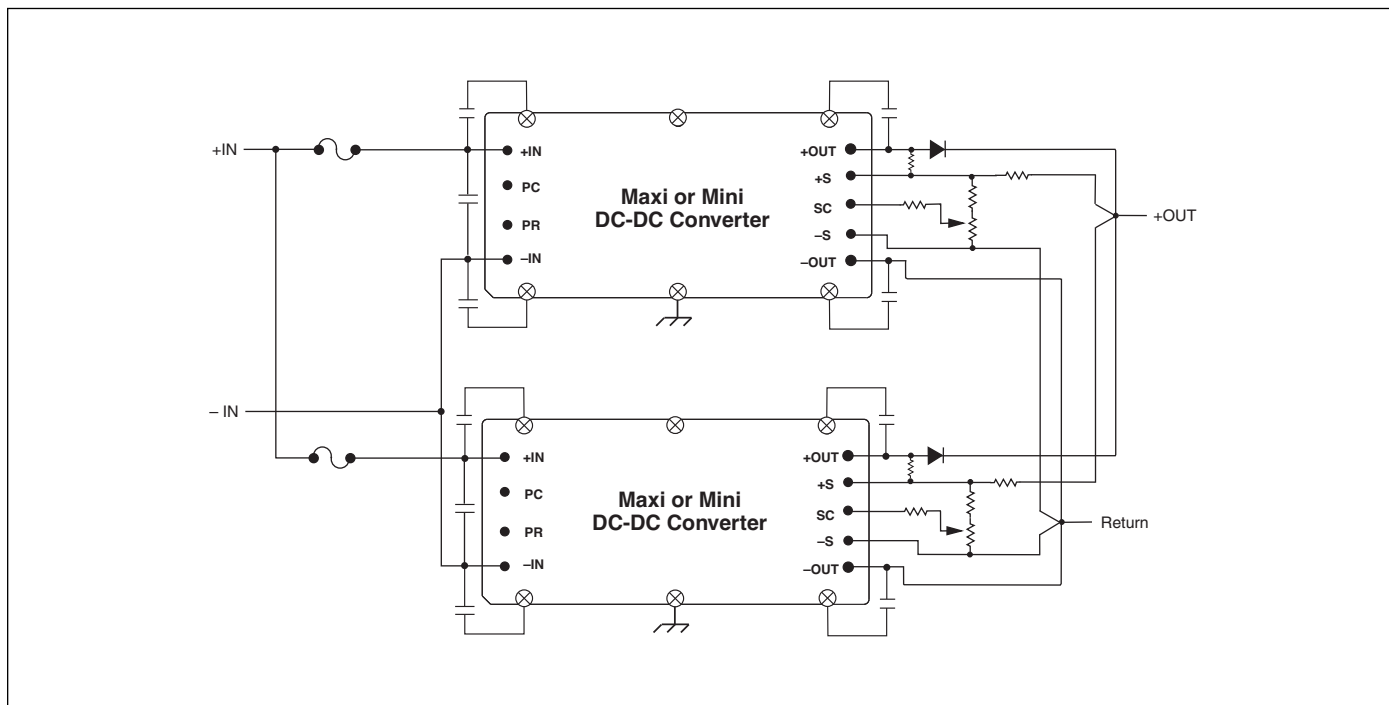

Figure 5–1 — The droop-share method artificially increases the output impedance to force the currents to be equal.
**Droop Share.** The droop-share method, shown in Figure 5–1, increases the output impedance to force the currents to be equal. It is accomplished by an error signal, which is interjected into the control loop of the converter causing the output voltage to operate as a function of load current. As load current increases, output voltage decreases. All of the modules will have approximately the same amount of current because they are all being summed into one node. If one supply is delivering more current than another supply, its output voltage will be forced down a little so that it will be delivering equal current for an equal voltage out of that summing node. Figure 5–1 illustrates a simple implementation of this scheme where the voltage dropped across the ORing diode, being proportional to current, is used to adjust the output voltage of the associated converter.
**Driver/ Booster Arrays.** Most Vicor converters can employ the driver / booster array for increased power. (Figure 5–2) Driver / booster arrays usually contain one intelligent module or driver, and one or more power-train-only modules or boosters. The driver is used to set and control output voltage, while booster modules are used to increase output power to meet system requirements.
ORing diodes may be inserted in series with the +Output of each module in a N+1 array to provide output fault tolerance (Figure 5–1). They are important in a redundant power system to maintain fault isolation. Without them, a short-circuit failure in the output of one converter could bring down the entire array. As well, fusing the input of each converter prevents a converter input short from compromising the entire array.
Current sharing, required to ensure system reliability, can be implemented by a multiplicity of methods. Figure 5–1, shown earlier as an example of the droop-share method, is also an example of N+1 redundancy using ORing diodes.
**Synchronous Current Sharing.** Synchronous current sharing (Figure 5–2) is available with Maxi, Mini, Micro converters — converters that use the zero-current-switching and zero-voltage-switching topology. Each module has the capability to assume control of the array, that is, they constitute a democratic array. The module that assumes command transmits a pulse on the parallel bus to which all other modules on the bus synchronize.
The converters use this pulse as a current-sharing signal for power expansion and fault-tolerant applications. The pulsed signal on the parallel bus simplifies current-sharing control by synchronizing the high-frequency switching of each converter. The parallel pin is a bi-directional port on each module used to transmit and receive information between modules. If the lead module relinquishes control, another module in the array will transparently take command with little or no perturbation of the output bus. A pulsed signal also gives designers the option to add capacitors (Figure 5–3) or transformers between parallel pins, providing DC-blocked coupling. Such coupling prevents certain failure modes internal to a single module from affecting the other modules in the array, thus providing an increased level of fault tolerance.
Use of a current-share bus transformer (Figure 5–4) enables arrays of Maxi, Mini, Micro converters to current share when they are widely separated or operated from independent sources. Since the current-share signal is a pulsed signal, it can be transformer coupled. Transformer coupling this pulsed signal provides a high level of common-mode noise immunity while maintaining SELV isolation from the primary source. This is especially useful when board-to-board load sharing is required in redundant applications.